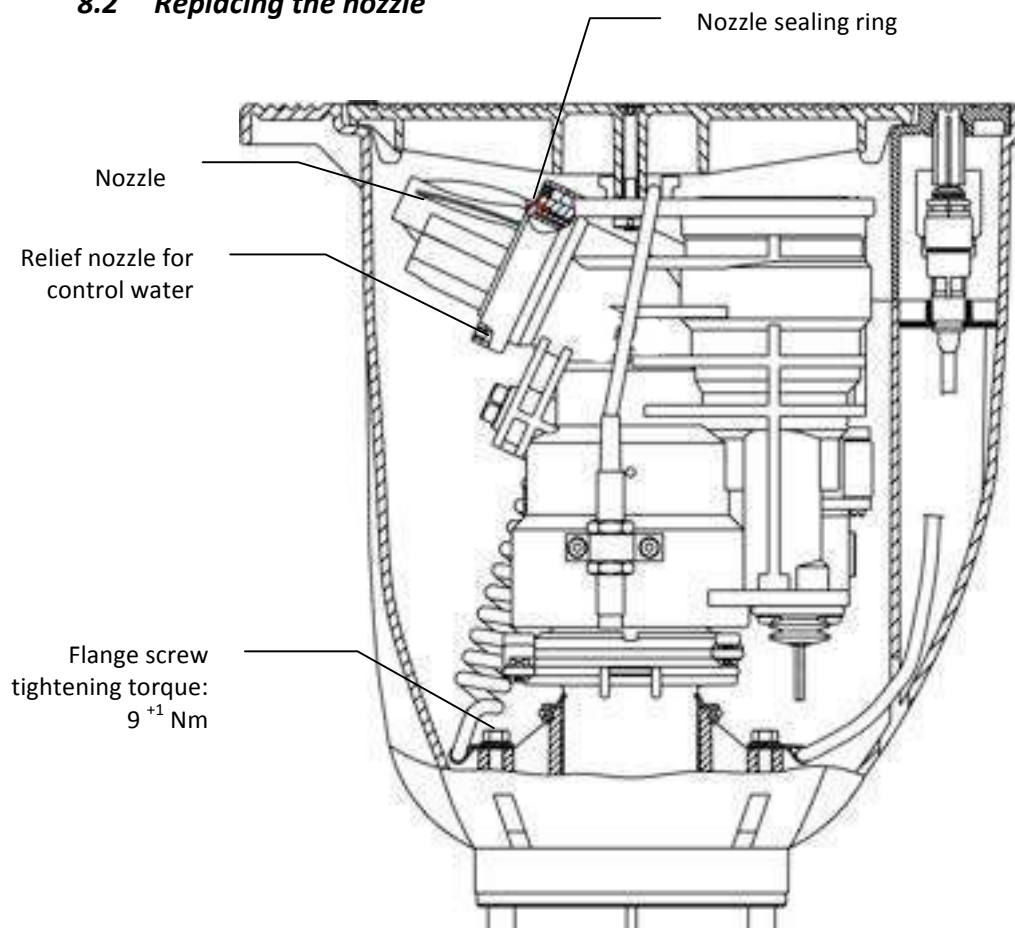

Figure 5
***When fitting the new nozzle, make sure that the nozzle gets fully screwed in, that the main secondary nozzle points downwards (6 o'clock position) and that the sealing ring is correctly fitted (figure 5).***